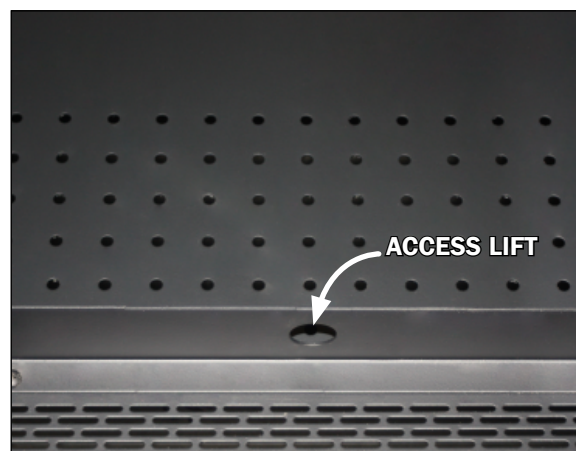

Fig. 20 Base deck pre-drilled access lift
2. To reach the fans and pressure plate first remove the base deck with help of the pre-drilled access lift supplied (Fig. 20). **Note: It is recommended that more than one person lift the deck.**